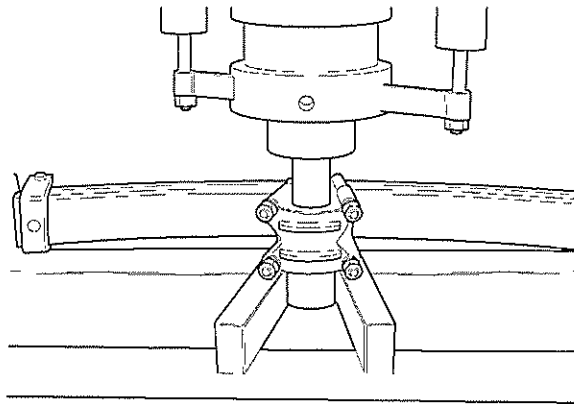

Fig 7 Ultra Bush
- 16.7 Press out ultra bush using pressing tool (Table 1, Ser 1) (see Fig 7).